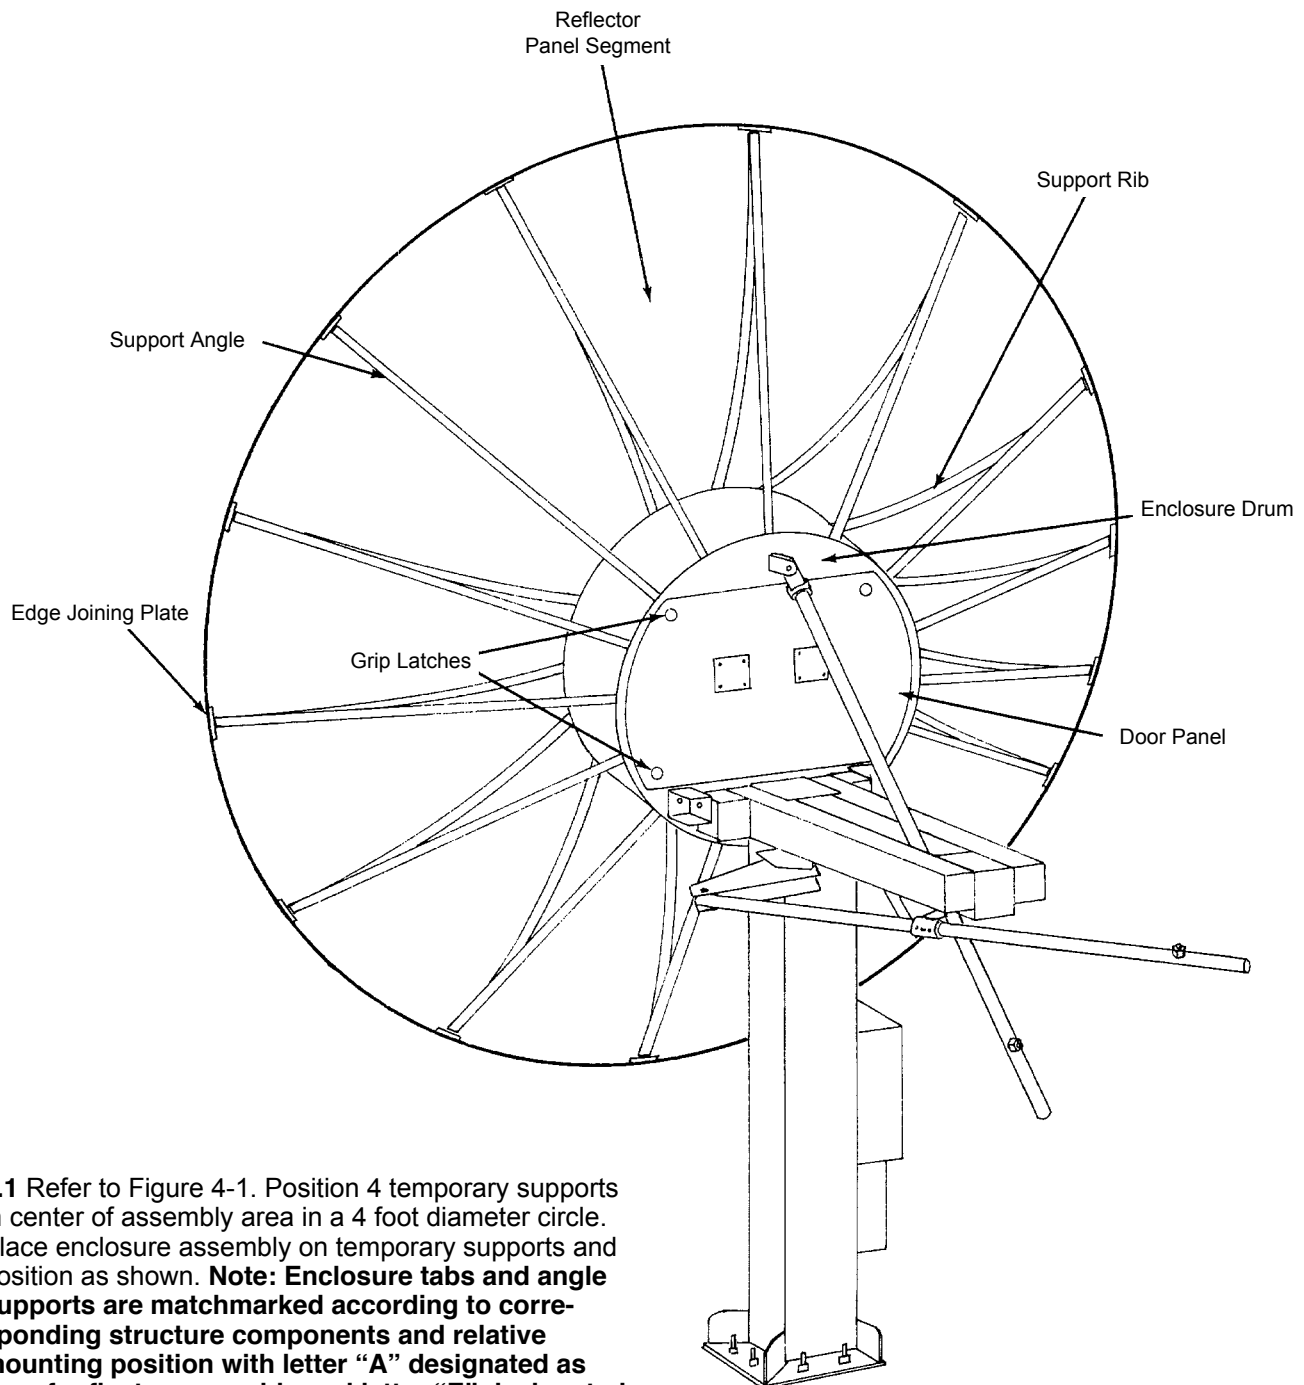

Figure 2-1
2.1 The antenna main reflector assembly, illustrated in Figure 2-1, is comprised of eight (8) precision formed aluminum reflector panel segments, corresponding aluminum support ribs, backstructure support angles, an equipment enclosure assembly and a reflector hardware kit.
3.2 Cut and remove all strapping, if applicable. Carefully remove all crating and interior blocking/bracing materials permitting removal of all main reflector assembly components. To facilitate assembly, reflector/backstructure components are packed corresponding to the sequence each is used during the reflector/backstructure assembly. Visually inspect the main reflector assembly components for evidence of any structural component damage. The equipment complement should correspond with the components illustrated in Figure 2-1 and the tabulation given in the corresponding parts listing. Any damage or shortages will prevent satisfactory assembly and installation of the antenna main reflector assembly.
3.3 Figure 2-1 illustrates the assembled main reflector assembly with the major assembly components identified. Refer to this figure in addition to the individually referenced illustrations as an aid in determining component relationship during assembly.